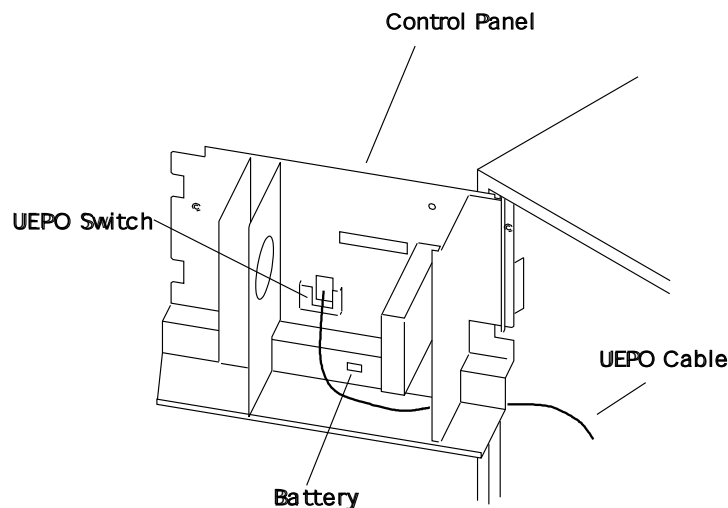

Figure 4-9. 3745-X1A Control Panel (Rear View)
- Step 5. ____ Open the 3745 control panel. Locate the unit emergency power OFF (UEPO) switch at the rear of the control panel (see Figure 4-9).